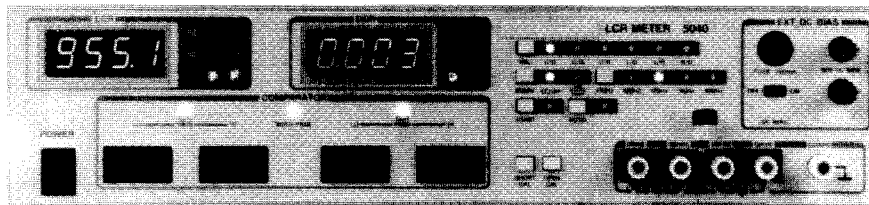

figure 2-5 : Measurement Result
2. Put the component into the test unit. The display shows the measured values as shown in figure 2-5. If an incorrect component type is selected, the LCR screen will display "SEL"; choose the right type by pushing the SEL key.